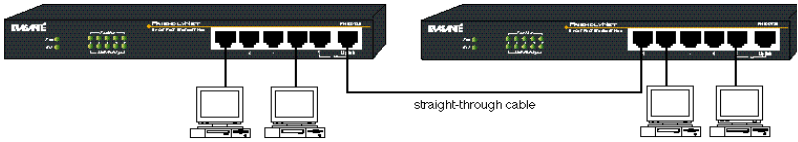

Figure 2-1 Sample 100Base-TX network layout
- o Only two hubs can be cascaded together (in a repeater environment, 100Base-TX allows only a single layer of cascaded hubs). See Figure 2-1.